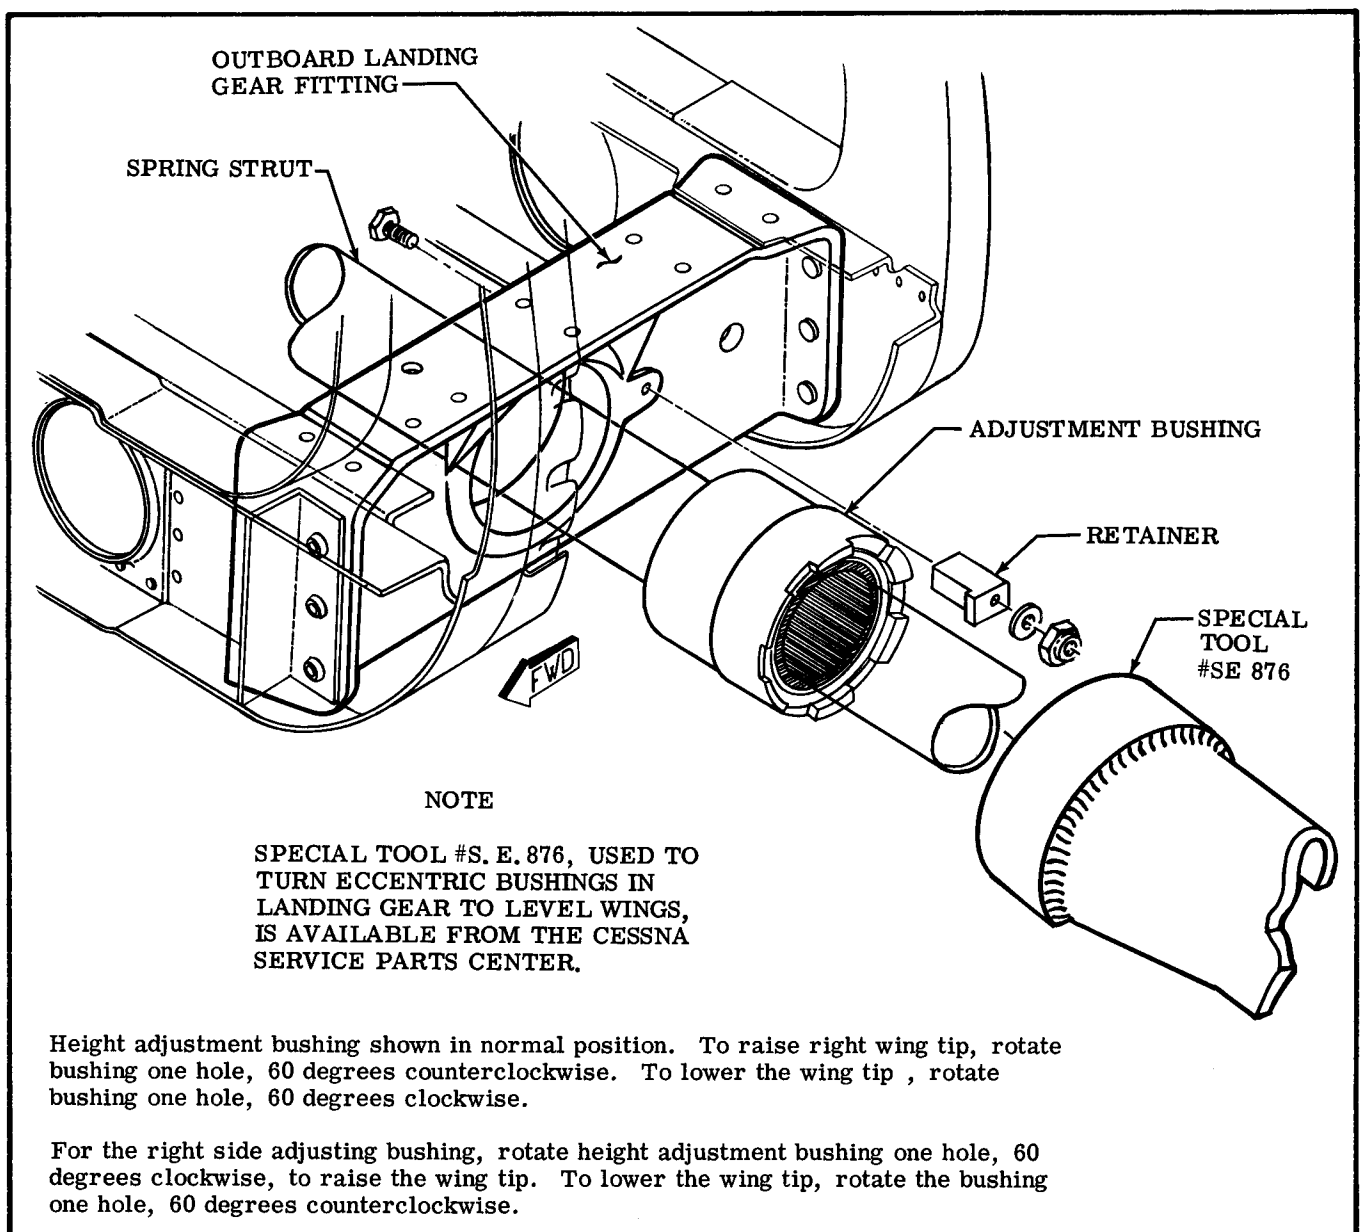

Figure 5-3. Wing Tip Height Adjustment
Incorrect adjustment of bushing at outboard bulkhead.	Adjust as required. Refer to figure 5-3 for adjustment.
- Remove screws attaching fairing (6) to fuselage. Slide fairing (6) down fairing (7).
- Referring to figure 5-3, remove screws and retainers. Rotate adjustment bushing to neutral position.
- Remove nut, washer and bolt attaching inboard end of strut (18) to inboard fitting (2).
- Rotate height adjustment bushing as required to level the wings within a total tolerance of three inches in accordance with figure 5-3.